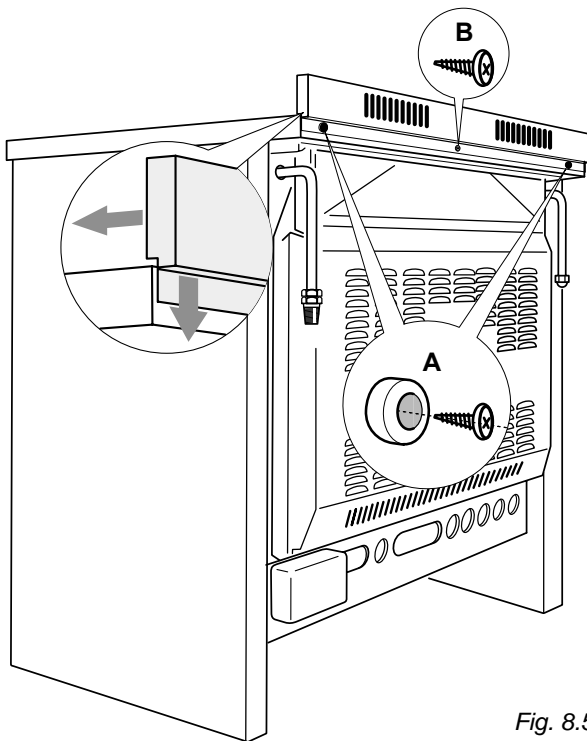

Fig. 8.5
- Assemble the backguard as shown in figure 8.5 and fix it by screwing the central screw “B” and the spacers “A”.